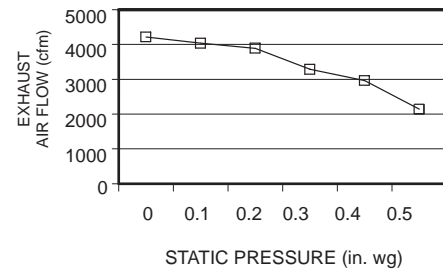

Fig. 10 — Power Exhaust Performance — 48/50PG16
7. The unit is now ready for normal operation. See Fig. 10 for power exhaust performance.